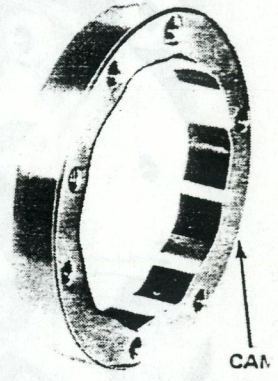

Fig. 2C-88
(1) Remove bolts attaching output shaft support to rear of case.
(2) Remove support from rear of case using wood-block and hammer.
(3) Centerpunch rivets exactly in center of each rivet head (fig. 2C-89).
(4) Drill through each rivet head using 3/8-inch (10 mm) diameter drill.